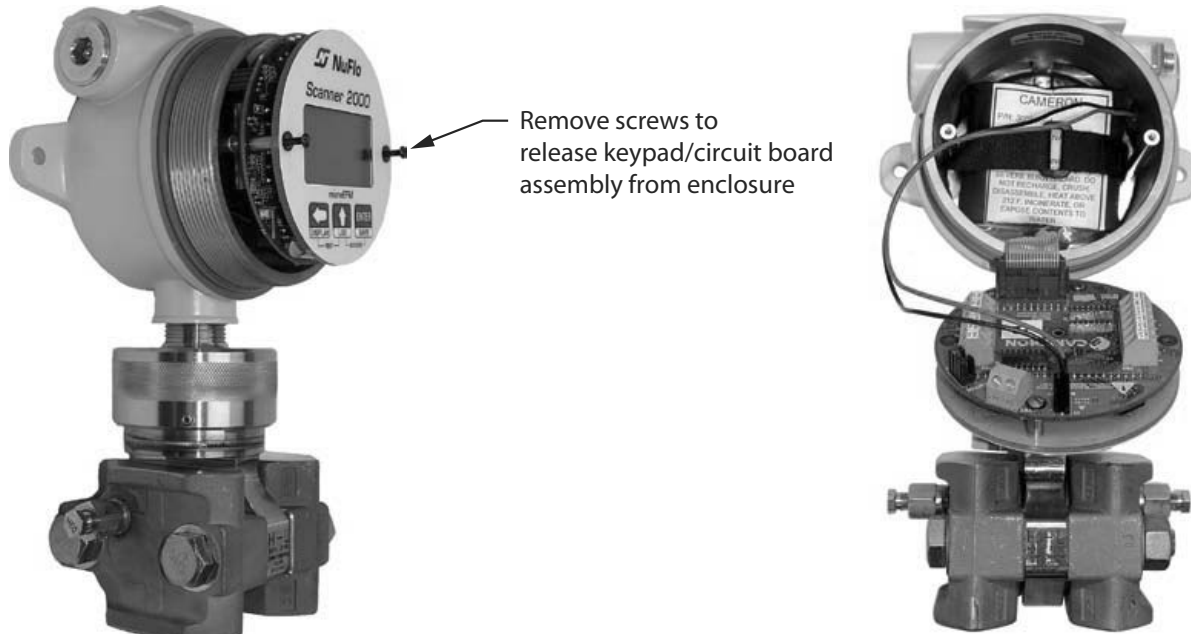

Figure 5.1—Removal of the battery pack from the enclosure
2. Using a small standard blade screwdriver, remove the two #4-40 × 7/8" screws located to the right and left side of the display (Figure 5.1, page 76).
4. Loosen the velcro strap, disconnect the battery from the J1 connector on the circuit assembly, and remove the spent battery pack from the enclosure (Figure 5.1).
2. Using a small standard blade screwdriver, remove the two #4-40 × 7/8" screws located to the right and leftside of the display (Figure 5.1, page 76).